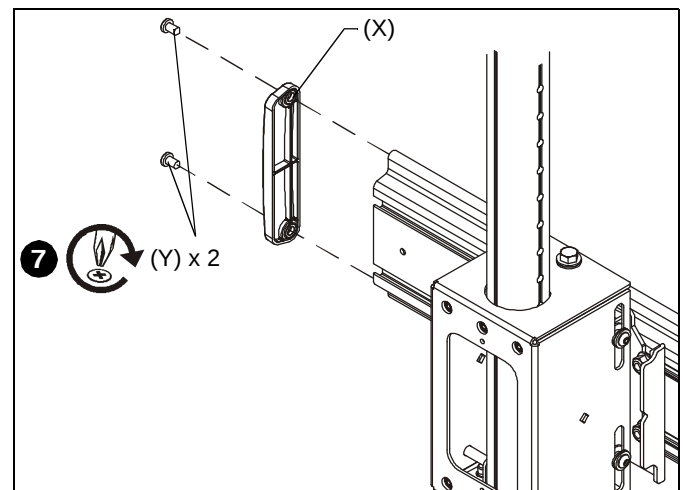

Figure 7
6. Repeat for remaining array head (FF).
7. Add one end cap (X) to each end of mounting rail, and fasten in place using two 1/4-20 x 1/2" Phillips self-tapping screws (Y) for each end cap. (See Figure 7)